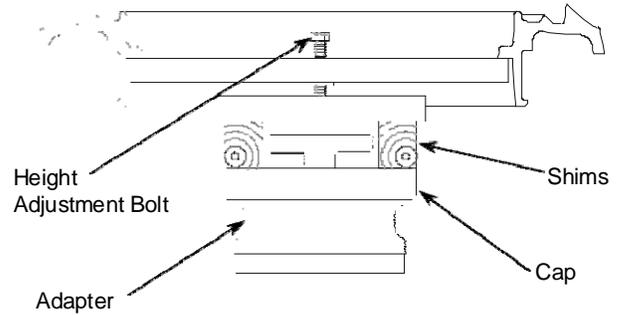

Figure 3 - Standard Cover Model Height Adjustment
Step 8: (See Figure 3 & 4)
Install adjusting system (sold separately, part number H12267) beneath tabs on mounting ring. See Figure 3 for standard cover models. See Figure 4 for sealable cover models. Add shims as needed and adjust with screw. (Shims must be cut to size for sealable cover models.) The height can be increased up to 1" (2.5cm).